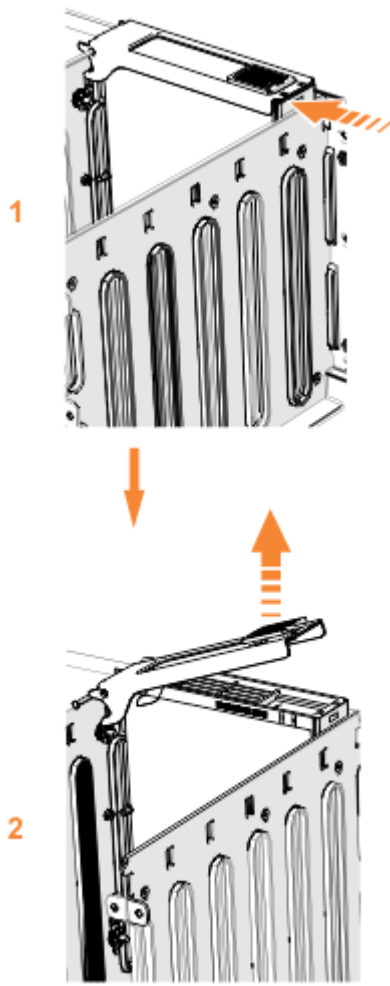

Figure 134. Remove the drive assembly
5. Slide the release latch forward (1), as shown in Figure 134 on page 180.
6. Lift the handle (2) to unlock the drive carrier from the partition, as shown in Figure 134 on page 180. Ensure the toe on the bottom of the latch is fully disengaged.